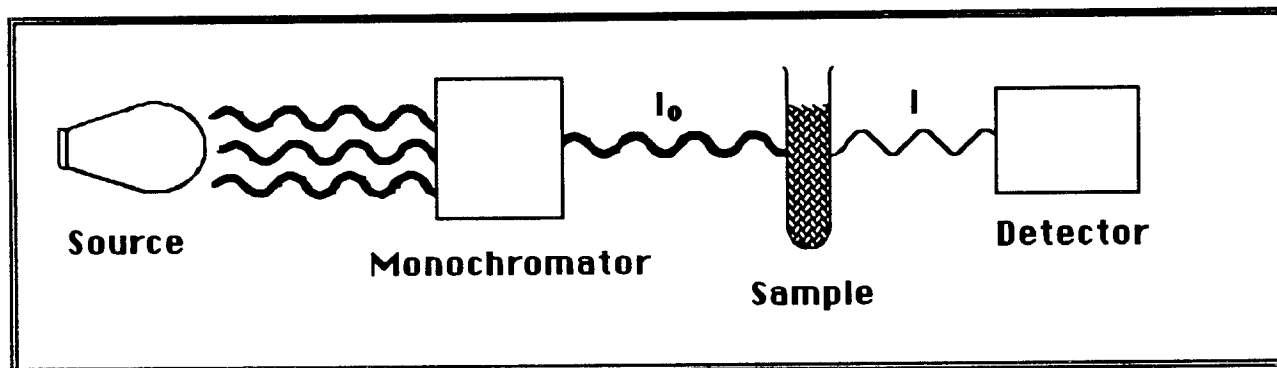

Figure 1.
Although the instruments that are used to measure the interaction of various regions of electromagnetic radiation with matter differ a great deal in design and operation, they all contain the same basic components. A schematic diagram of a simple instrument that is used to measure the absorption of visible light is shown in Figure 1.
All the parts of the instrument work together as follows (Figure 1): Light from the source passes through the monochromator producing a beam with a single energy or a narrow band of energies. The intensity of this beam,  $I_0$ , is measured by the detector. The sample is then placed in the beam between the monochromator and the detector. If some of the light is absorbed by the sample, the intensity of the beam reaching the detector,  $I$ , will be less than  $I_0$ . The detector compares the two intensities and reports the result as either percent transmittance (%T) or absorbance (A).